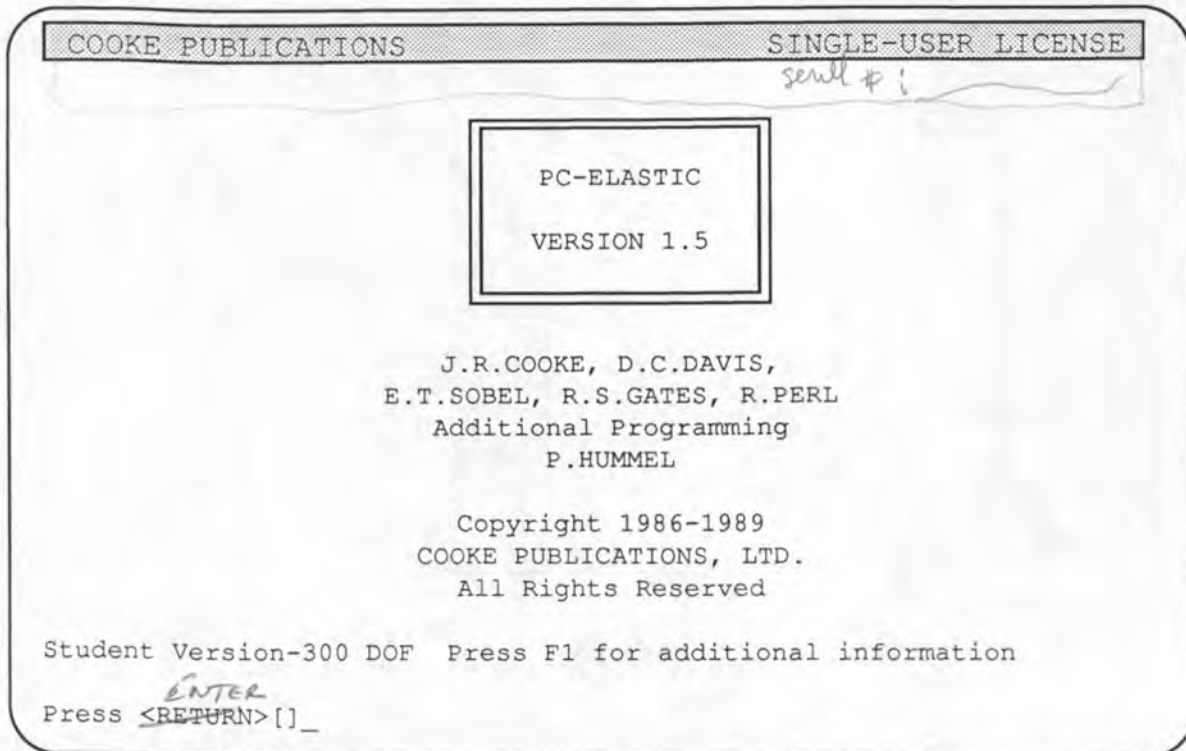

Fig 2.4 Program credits and copyright notice
- Type `PCE <enter>` to activate the program. The title screen appears (Fig 2.4).